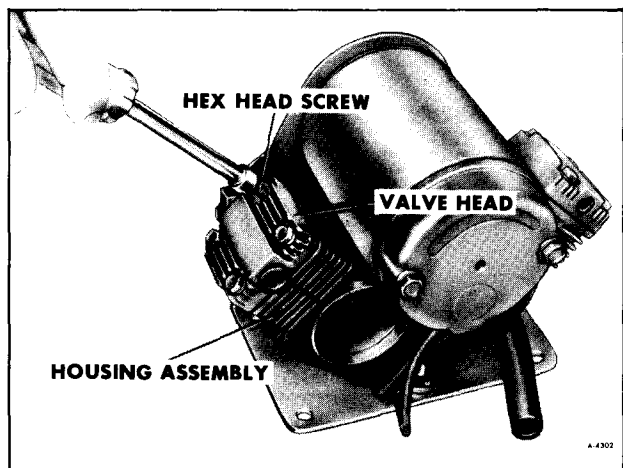

Figure 44—Valve Head Removal
1. Remove four hex head screws holding valve head to housing assembly (figure 44).